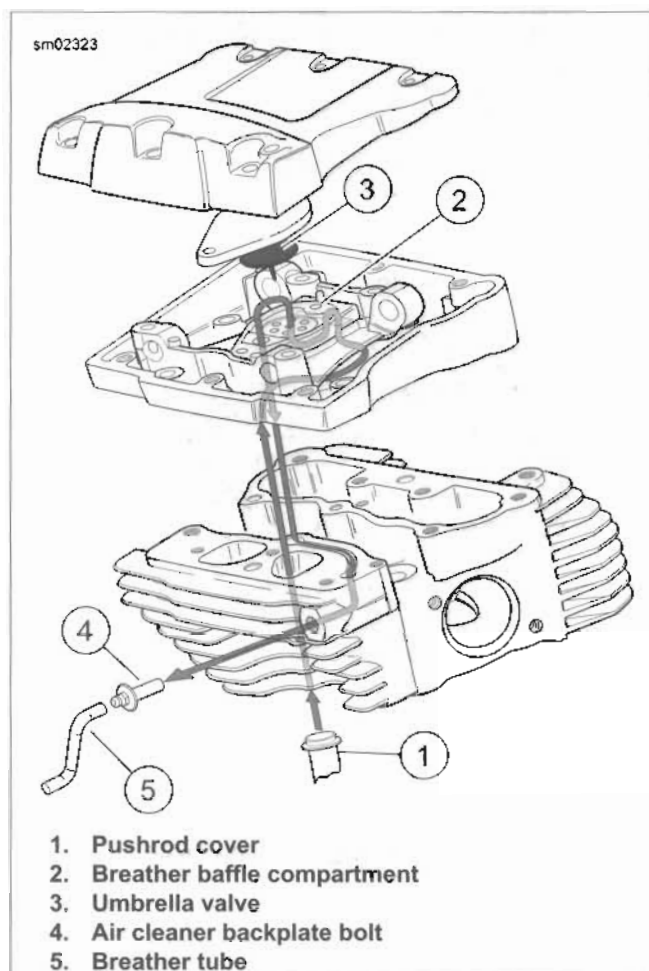

Figure 3-11. Breather Air Flow
See Figure 3-11. As pistons push downward, displaced air in the crankcase is vented through the crankshaft roller bearing into the cam compartment. The air then flows up the pushrod covers (1) into the rocker housing. The moving air absorbs a small amount of oil vapor as it travels through the engine.